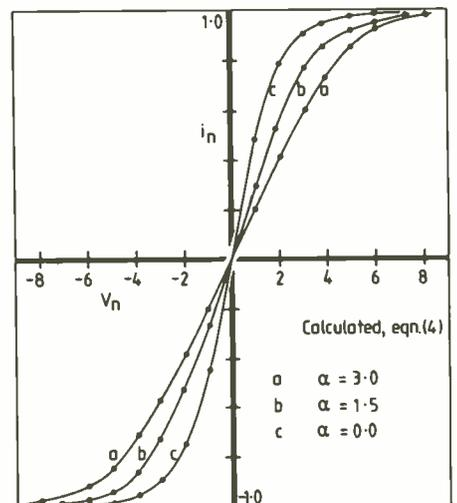

Fig.2. Graphs resulting from the application of equations (4) to (7).
To establish the accuracy of (4), calculations were made using (4-7), shown in Fig.2, from which it is obvious that the proposed model accurately represents the normalized input-output characteristic of the long-tailed pair.